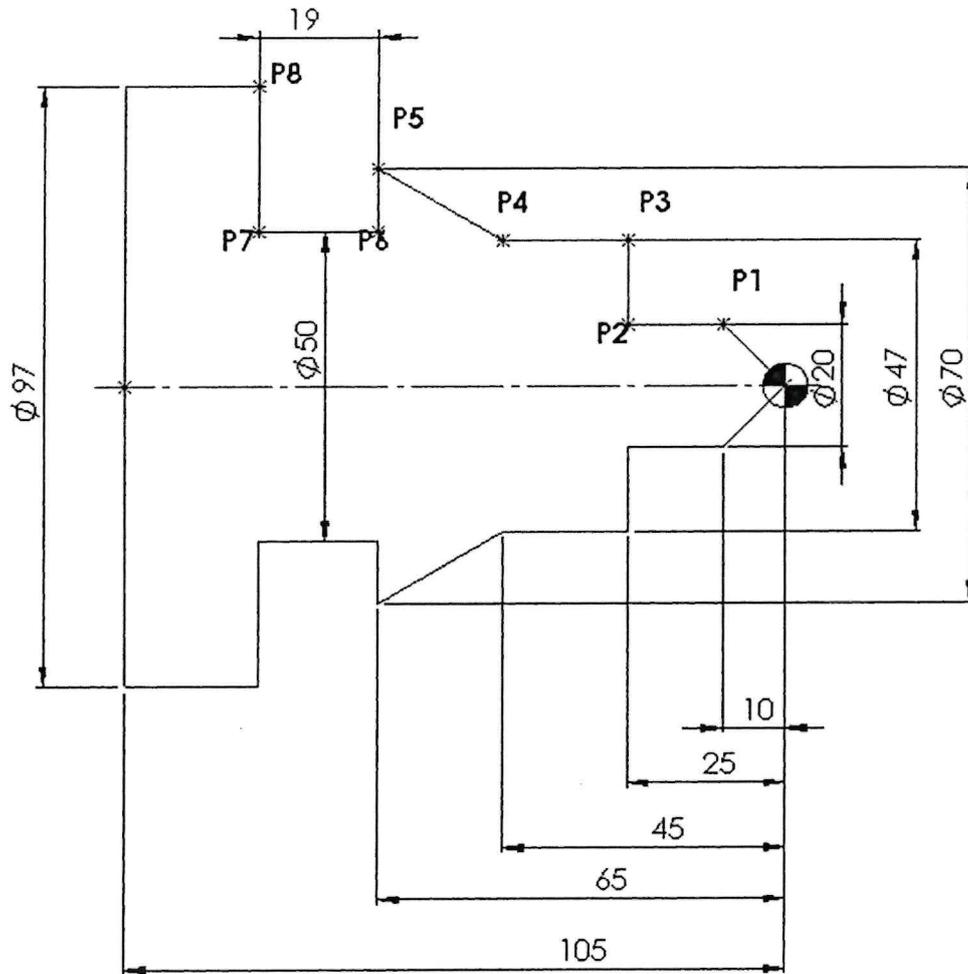

Figure 2
- b) Refer to the **Figure 2**, write **absolute** coordinate systems from the Part Zero (0,0) until end point (P8). Make a table of coordinates from Part Zero(P0) to P8 in X and Z axis for each of the coordinate systems.